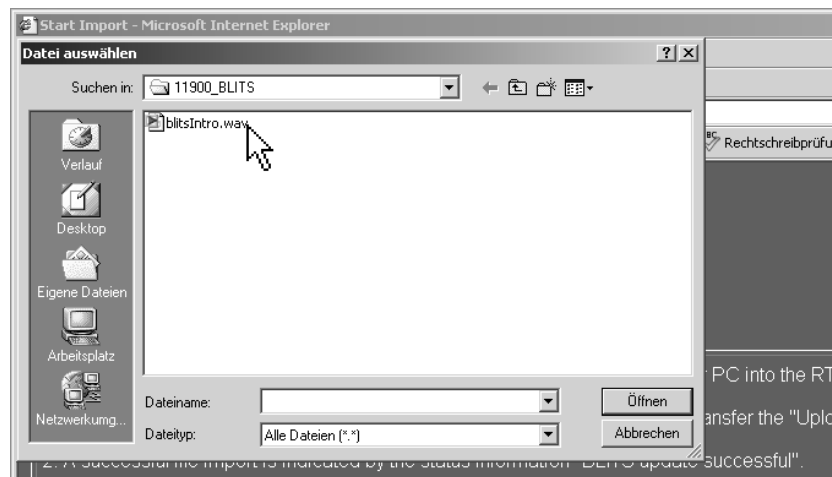

Fig. 8-27: The BLITS file selection dialog box (blitsIntro.wav)
4. Choose the folder (e. g.: C:\11900_BLITS) with the ident intro wave file and click the file e. g. **blitsIntro.wav** (see Fig. 8-27).